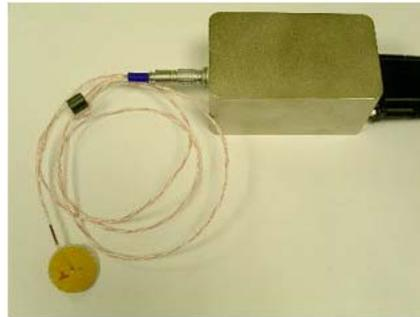

Figure 7.20
5. When the zero value calibration has been completed a window, similar to that shown in Figure 7.16, will be displayed. Follow the instructions given. The zero heat flow sensor is shown connected to the calibration box in Figure 7.20 below.